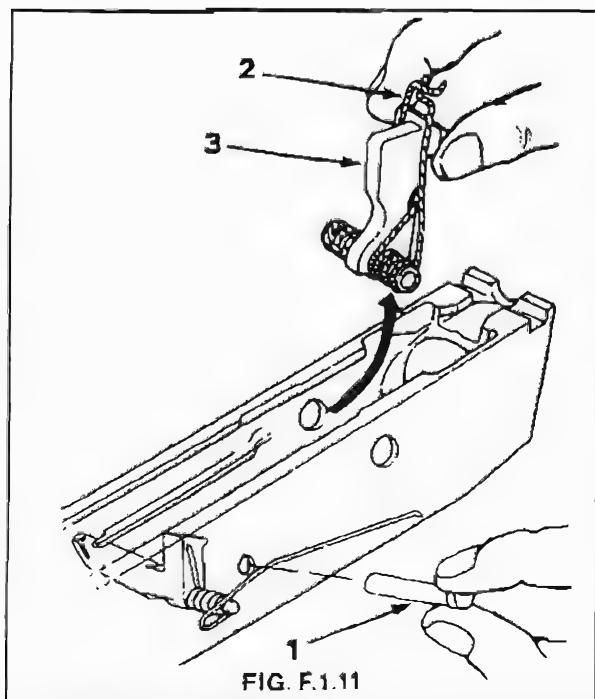

FIG. F.1.11
9. Withdraw hammer axis pin while disconnecter spring is being pressed down. Remove the hammer complete with the hammer spring through the opening in the rear of the receiver. See Fig. F.1.11.